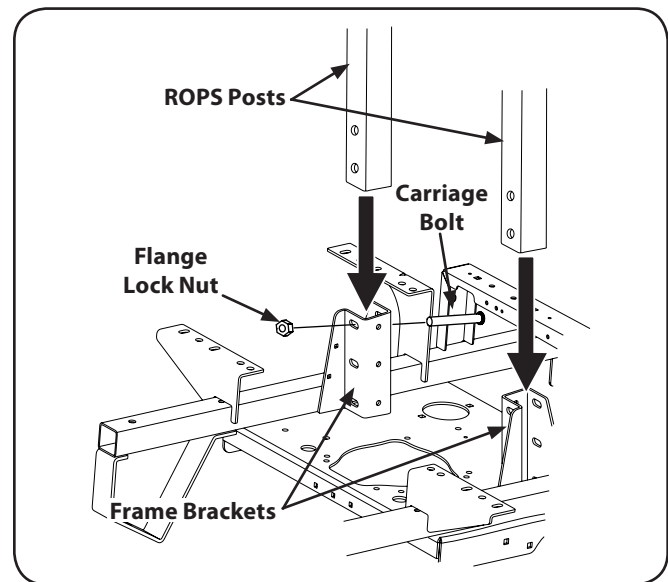

Figure 3-2
1. Insert each of the lower section ROPS tubular "posts into the brackets welded to the unit main frame. See Fig. 3-2.
NOTE: The ROPS pivot holes should be positioned toward the rear of the unit. See Fig. 3-2.
2. Insert the carriage bolts (½-13 x 3.25) (one per side) from the front toward the rear. See Fig. 3-2. Alternately from the rear toward the front if access is restricted.
3. Three holes are provided on each side. Use the Upper hole and one of the other two remaining holes that is easily accessible. Install the retaining nuts, but do not tighten. See Fig. 3-2.
6. Tighten the frame mounting hardware to 80-90 lb.-ft. torque. See Fig. 3-2.